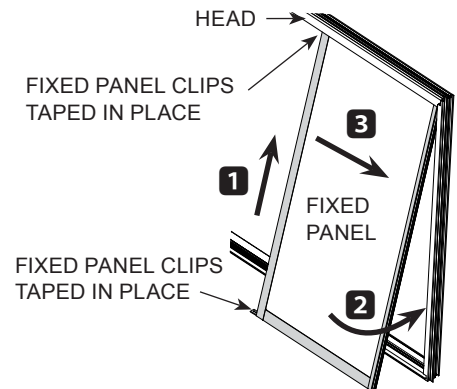

FIG. 20
3. From the exterior, tilt the fixed panel and insert into the top track. Swing bottom of panel in and set it in place on top of the sill riser. (FIG. 20)